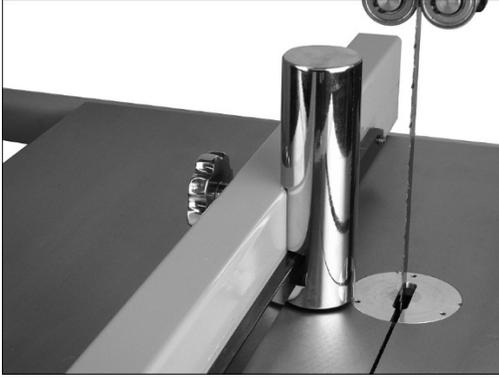

Figure 33: resaw pin
Refer to Figure 33.
1. Place a square against miter gauge face, and against flat of blade, as shown in Figure 33. (Place square against flat of blade, not the teeth which are set wider than the blade body). A wide blade is preferred for this procedure.
2. Flip 90° stop plate (C) out of the way and loosen handle (A). Shift miter gauge body until it is flush with square, then retighten handle (A).
3. Flip stop plate (C) back down and loosen 90° stop hex nut and adjust screw until it contacts the 90° stop plate.
5. Loosen set screw at base of pointer (B), and shift pointer so that it lines up with 90° mark on scale.